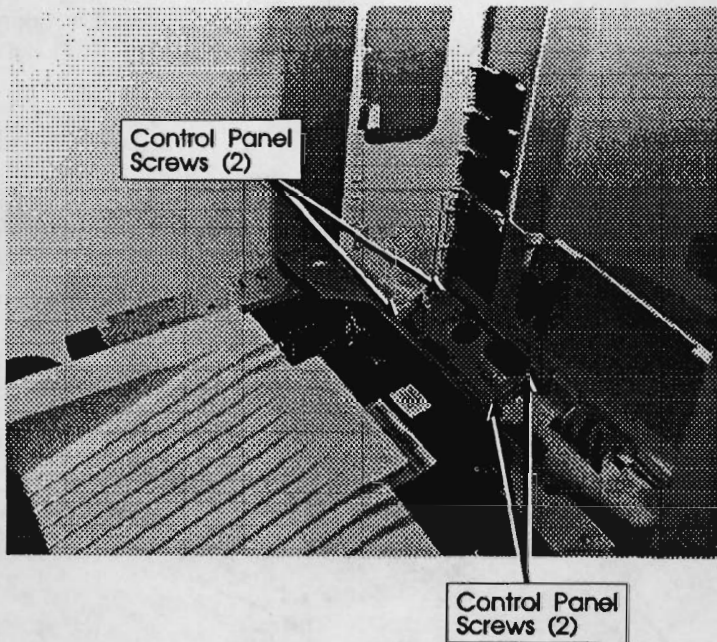

Figure 6-10. Control Panel Removal HP 33447 and 33459
2. Remove the (4) screws securing the Control Panel to the front cover (see Figure 6-10).